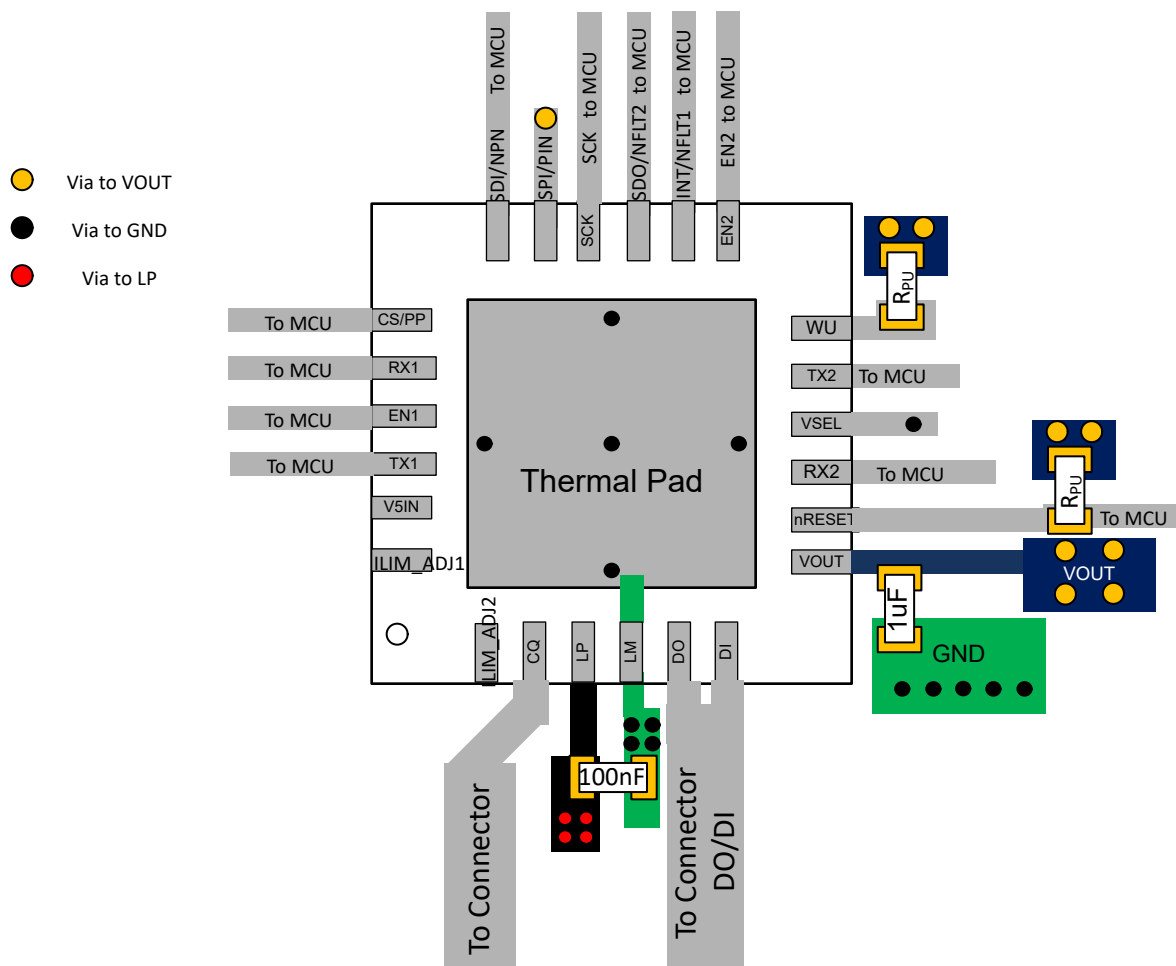

Figure 8-8. QFN Layout Example (SPI mode shown)
- Use of a 4-layer board is recommended for good heat conduction. Use layer 1 (top layer) for control signals, layer 2 as power ground layer for LM, layer 3 for the 24V supply plane (LP), and layer 4 for the regulated output supply (VOUT).
- The optimum placement of the capacitor is closest to the LP and LM terminals of the transceiver to reduce supply drops during large supply current loads. See Figure 8-8 for a PCB layout example.